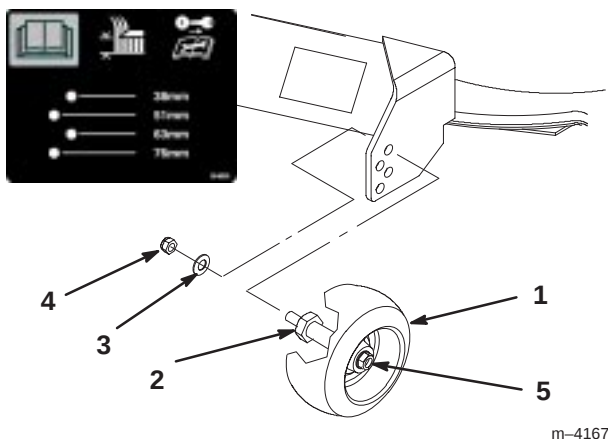

Figure 26
2. After adjusting height-of-cut remove nut and washer while holding stud with wrench (Fig. 26).
- Note:** Do not remove the wheel nut and washer (Fig. 26).
3. Select hole so gage wheel is positioned to the nearest corresponding height-of-cut desired (Fig. 26).
4. Reinstall the stud nut and washer (Fig. 26).